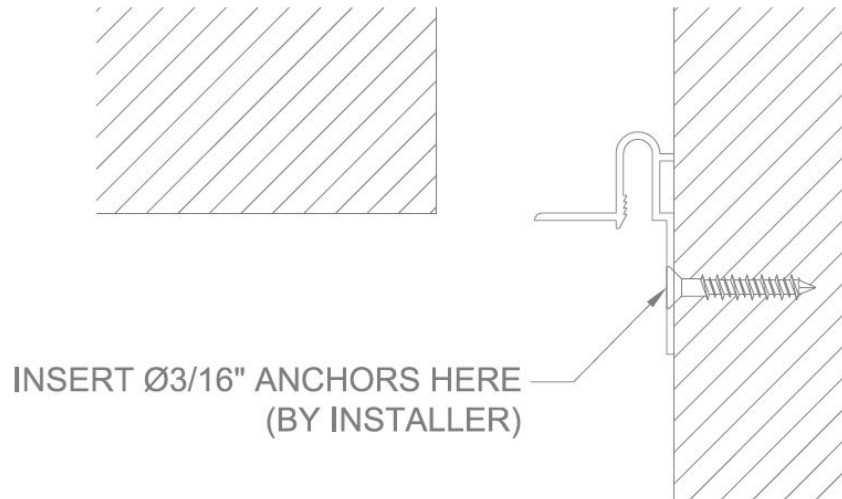

FIGURE 6
2. Once all holes have been predrilled, attached clips with appropriate anchors (by installer). **See Figure 6.**